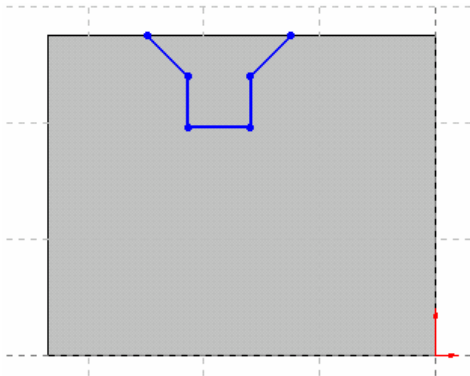

Figure 13 V-Slot Sketch
- 5) Draw five lines to form the geometric V-slot shape as shown in Figure 13.